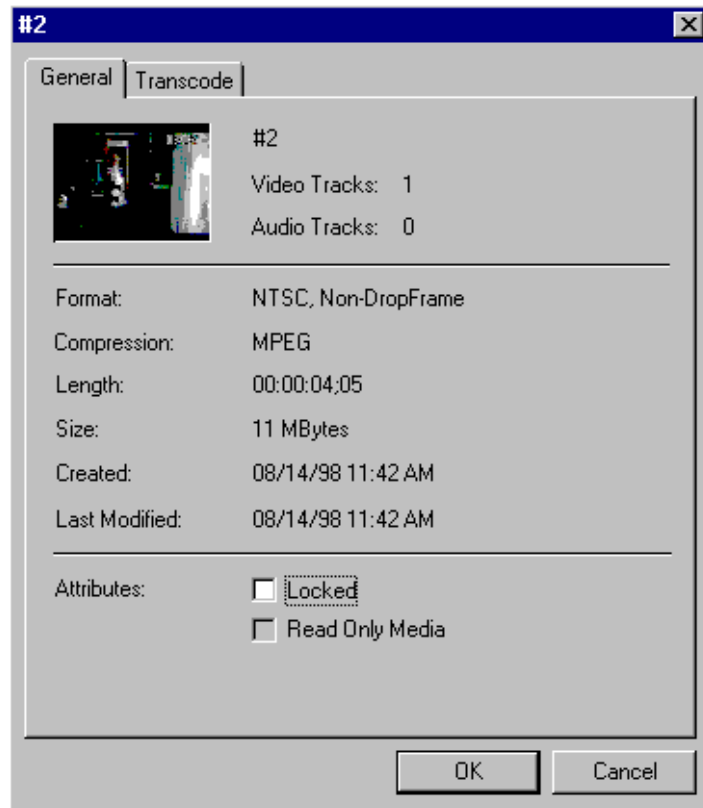

Figure 27. Properties dialog box for clips or masters
2. Choose **Properties** from the **File** menu or from the shortcut menu with a right-click. You can also click the **Properties** button on the toolbar. The Properties dialog box for clips or masters appears (see Figure 27).